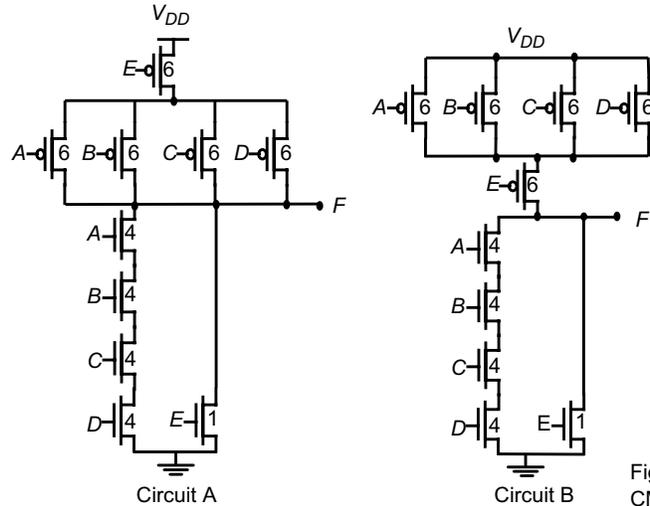

Figure 0.1: Two static CMOS gates.
- a) Do the two circuits in Figure 0.1 implement the same logic function? If yes, what is that logic function? If no, give Boolean expressions for both circuits.